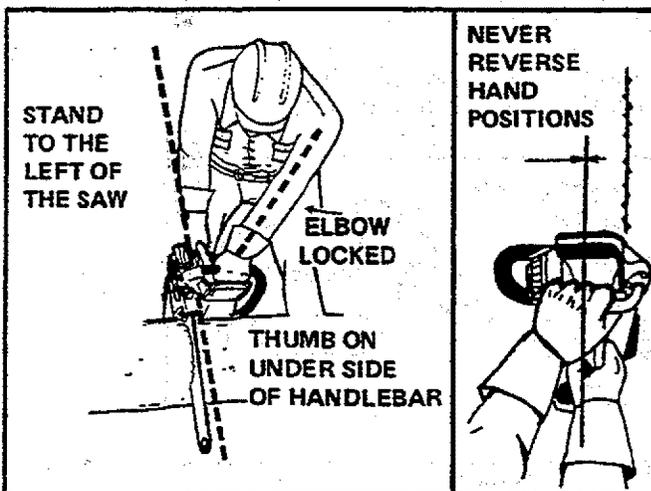

Figure 17
- Keep a good firm grip on the saw with both hands. Figure 17. A firm grip can neutralize kickback and help you maintain control of the saw. Keep the fingers of your left hand encircling and your left thumb under the front handlebar. Keep your right hand completely around the rear handle *whether you are right handed or left handed*. Keep your left arm straight with the elbow locked.
- Position your left hand on the front handlebar so it is in a straight line with your right hand on the rear handle. Figure 17. Never reverse right and left hand positions.
- Stand slightly to the left side of the saw, to keep your body from being in a direct line with the cutting chain. Figure 17.